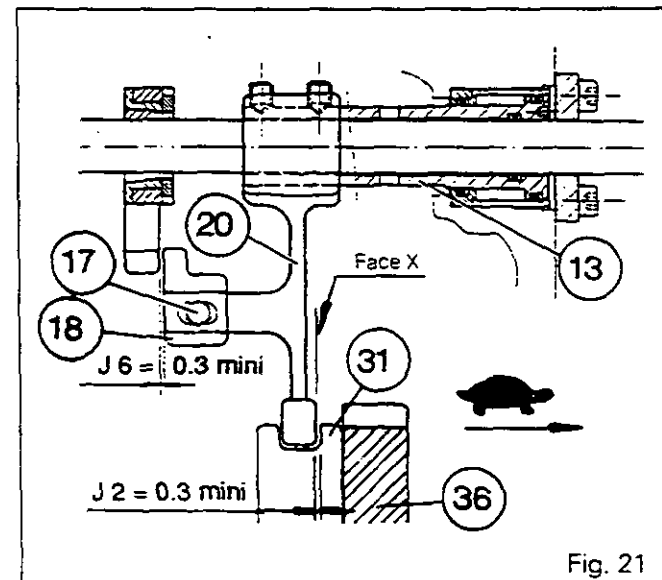

Fig. 21
78. Set the control piston (13) and the synchromesh to the low range (Tortoise).
79. Check that there is a play of $J2 = 0.3$ min. (value determined by setting J1) between the pad and the synchromesh slide rod, with the slide rod resting against the low range gear (36) (Fig. 21). Tighten the screws to a torque of 35 Nm without modifying the setting.
Note: In the Tortoise position, play J1 must be increased if face X of the pad on fork (20) is bearing against the synchromesh slide rod (Fig. 21).
81. Slightly loosen the castellated nut (21). Apply a moderate coat of Loctite 270 on the thread of cone (24).